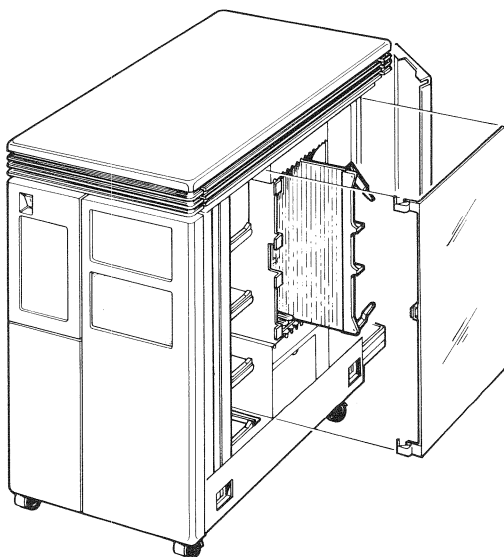

Figure 10-17 Module Removal
3. Slide the module partially out of the backplane (Figure 10-17).